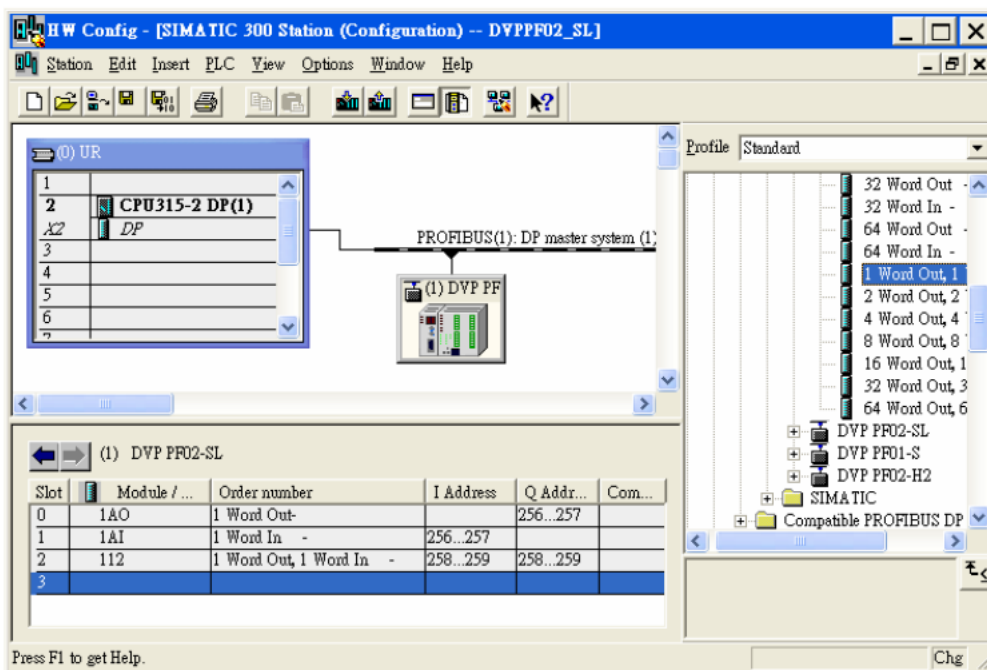
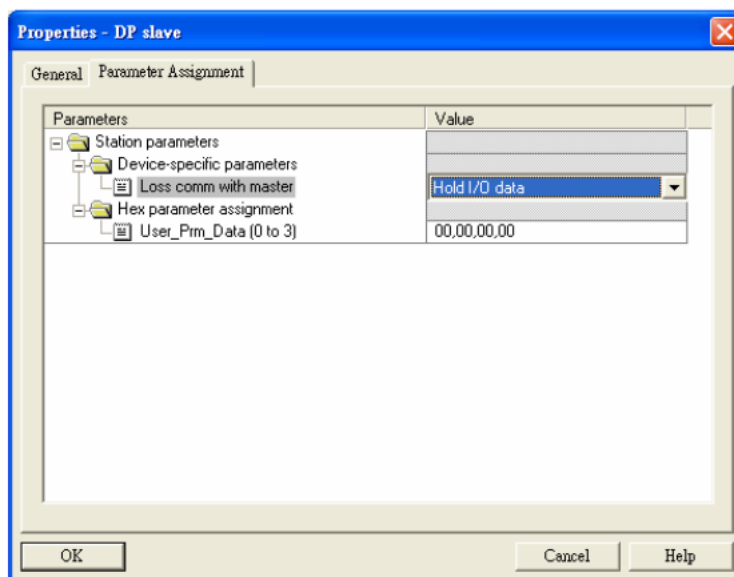

Figure 10-25
Figure 10-26
6. Configure other slots as the way Slot 0 is configured, as Figure 10-25. Finish configuring Slot 0 to Slot 2.
7. After DVPPF02-SL is configured, double click the slave DVPPF02-SL on the PROFIBUS DP bus in Figure 10-25, and a dialog box will appear, as Figure 10-26. See 8.1 for definitions of the parameters in the dialog box.